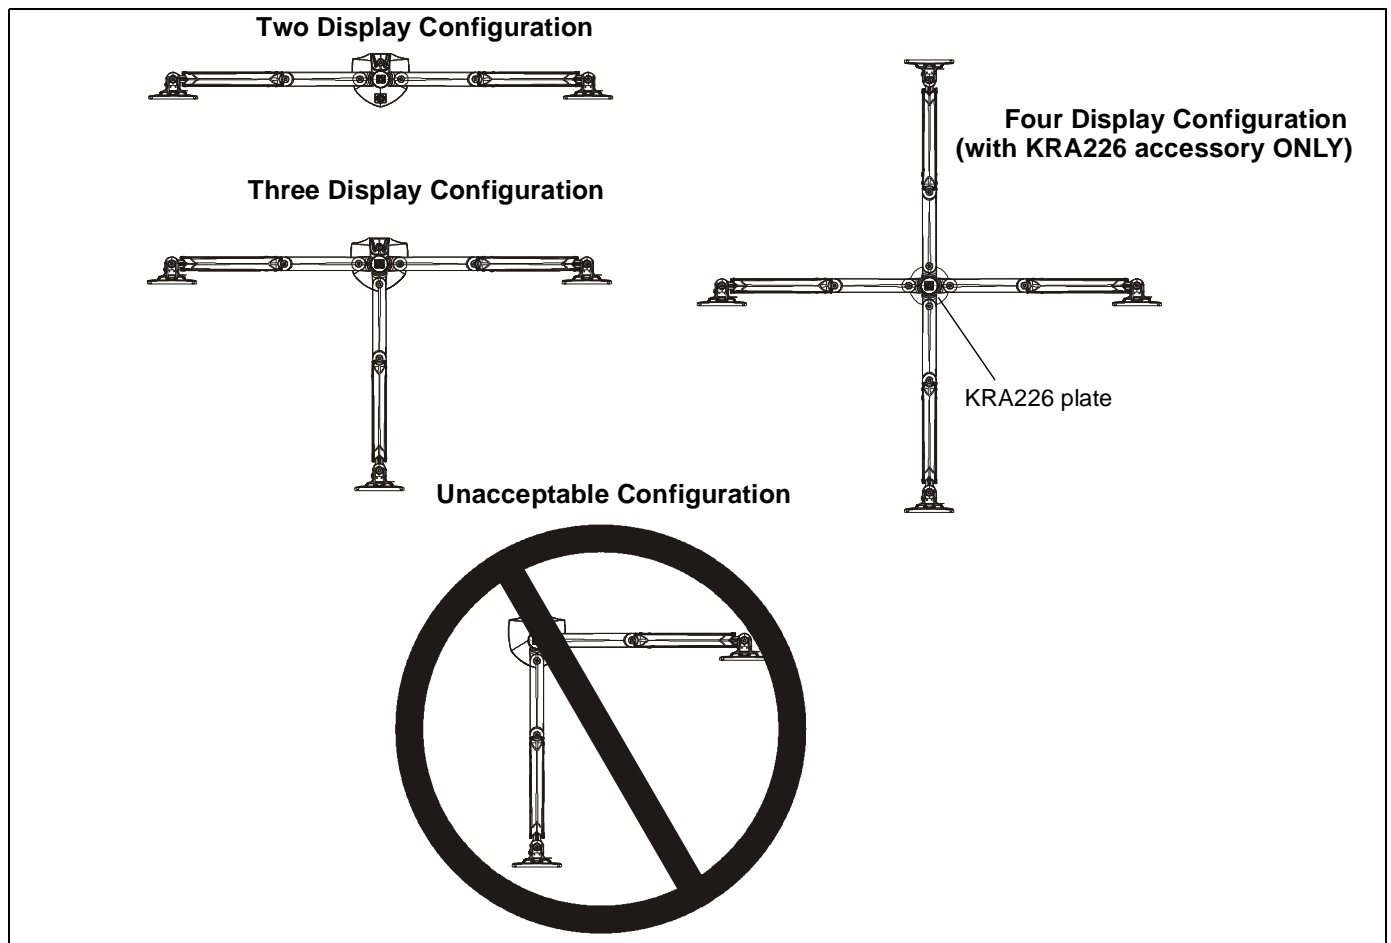

Figure 3
**IMPORTANT !** : The only acceptable two display configuration is for the arms to be installed on opposite sides of the column! See Figure 3 for acceptable and non-acceptable configurations.